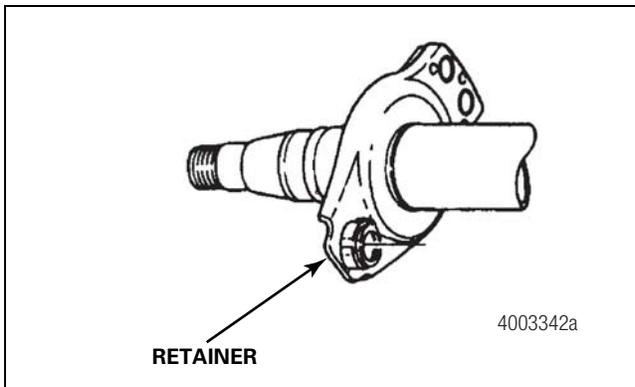

**Figure 11.60**
6. Tighten the four bolts to draw the bolt-on bushing housing into its seated position. Figure 11.60.